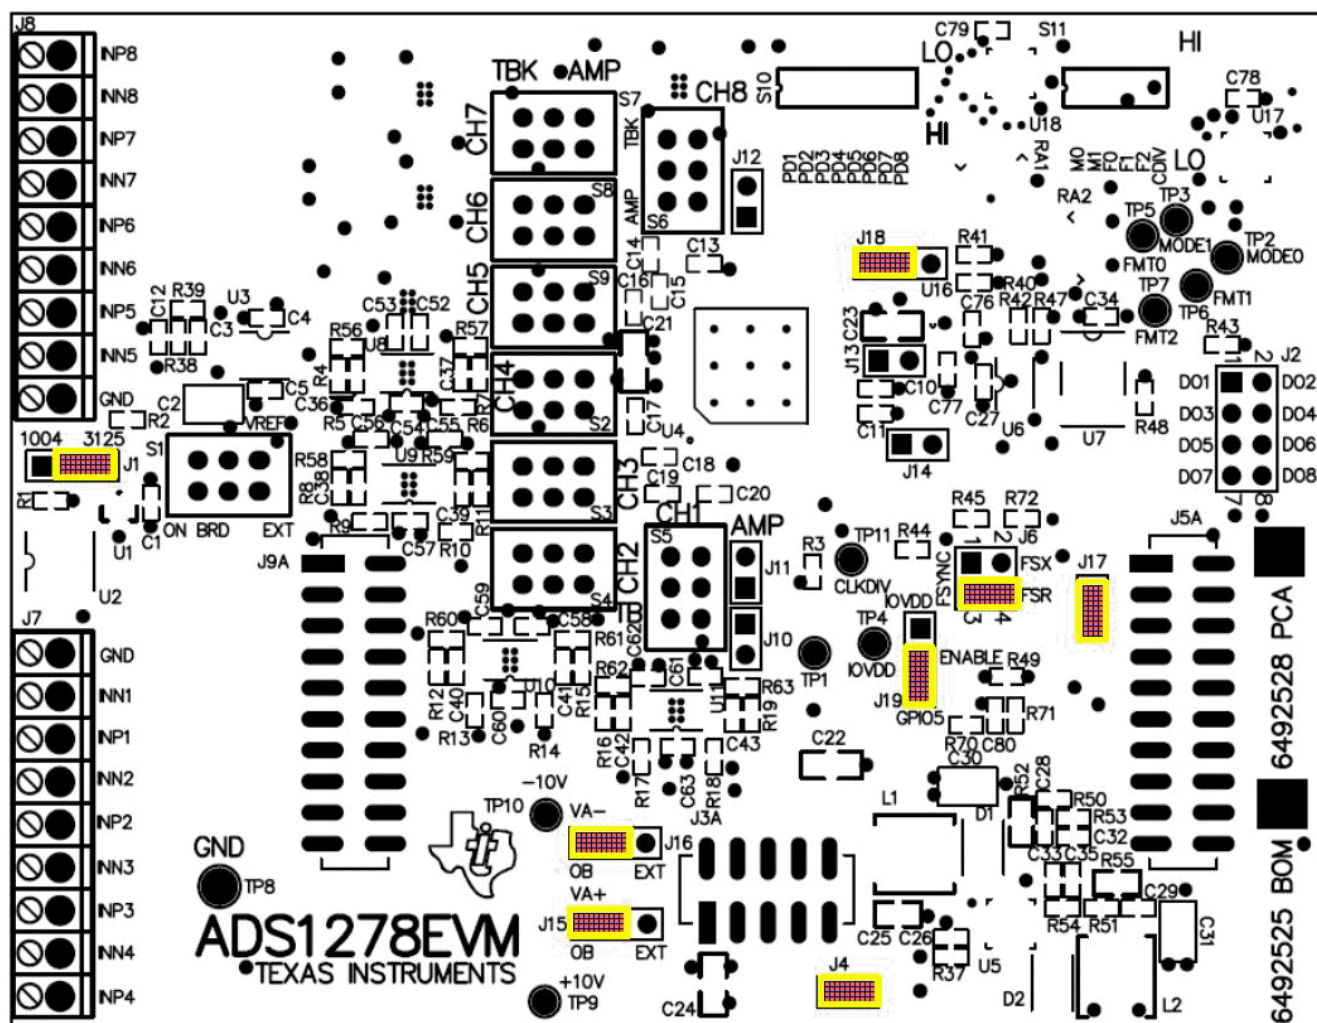

Figure 7. ADS1278EVM Default Jumper Locations
Figure 7 shows the jumpers found on the EVM and the respective factory default conditions for each.
Step 4. Set the jumpers and switches on the ADS1278EVM as shown in Figure 7 (note that these settings are the factory-configured settings for the EVM). If not using the onboard 10V power supplies, change J15 and J16 to the EXT connection.